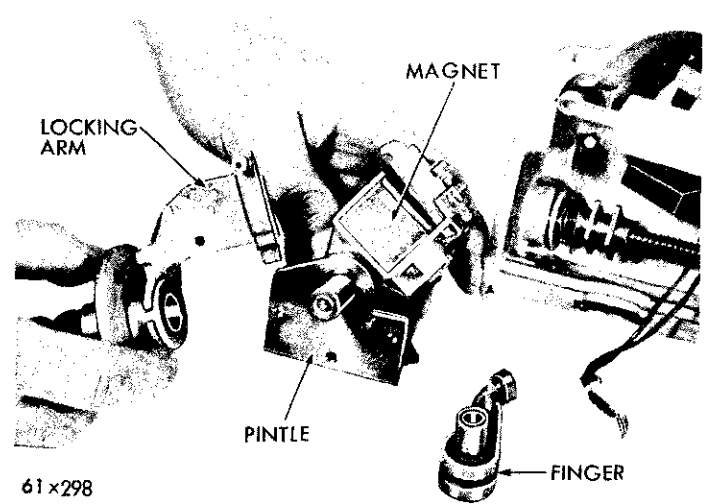
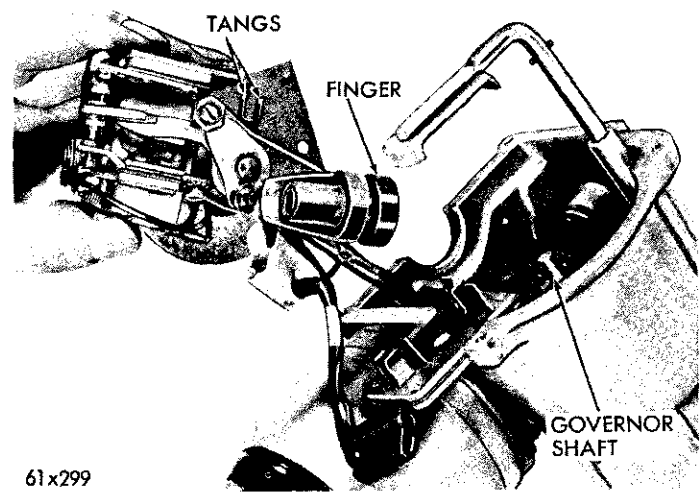

Fig. 27—Assembling the Locking Arm on the Pintle Shaft
Fig. 28—Installing the Complete Pintle Assembly in the Housing
(3) Install the pintle shaft in the collar end of the bushing in the magnet assembly.
(4) Install the contact arm on the end of the pintle shaft and attach with the snap ring.
(5) Install the locking arm on the pintle shaft (Fig. 27).
(6) Install the finger assembly on the ball joint of the contact arm.
(7) Install the complete assembly in the housing (Fig. 28). Position the finger assembly over the governor shaft, align the bracket tangs on the bottom of the magnet assembly with the grooves in the drive screw nut. Press down on the complete assembly until it seats itself in the housing.